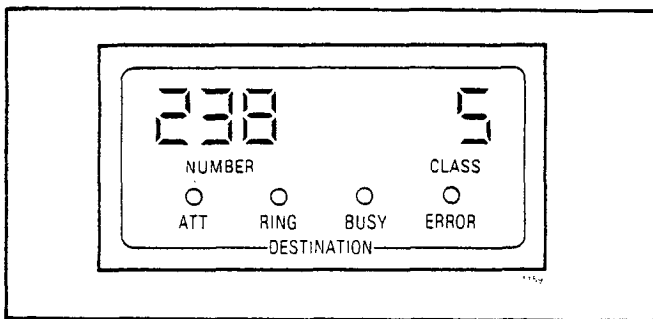

Fig. 4-5 Destination Display
4.31 DESTINATION: The DESTINATION display (Fig. 4-5) holds two digital and four LED displays which provide the following information on all calls made from the console.